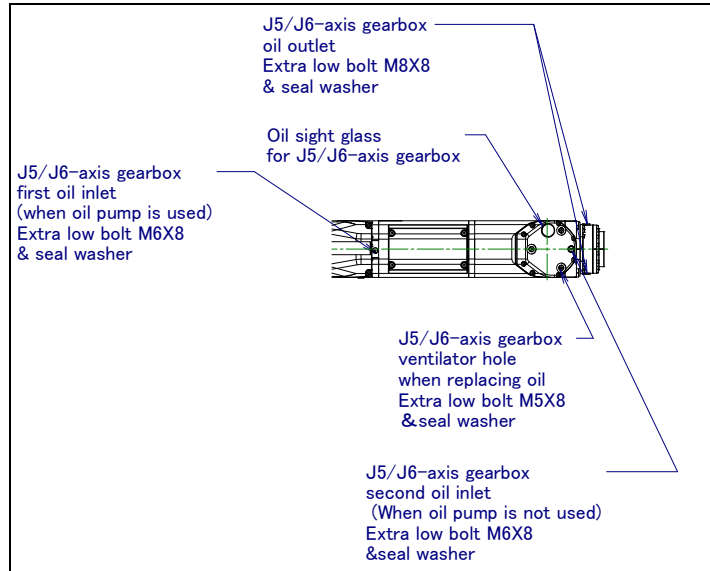

Fig .3.2.4 (a) Oil inlet and outlet
- 3 Put the oil pan under the oil outlet. Remove the extra low bolt and seal washer of first oil inlet and seal washer. (See Fig. 3.2.4 (a)) (In this time, if you remove bolt of oil outlet firstly, you can prevent spilling oil on surroundings).